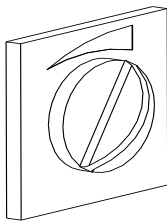

Fig. 6: damper flap
- Open damper flap, if present, completely (see Fig.6).
- When after a few minutes the firewood has burnt well all around (see Fig.8), close the combustion air flap by approx. 50% (set the control to the middle position - see page 1 / Fig.2) or close the damper flap, if present, by 50% (handle to the left - see Fig.6).
- Open the door slowly. This prevents turbulence, which would allow fumes to escape. Fully open the damper flap, if present (see page 3 / fig. 6).